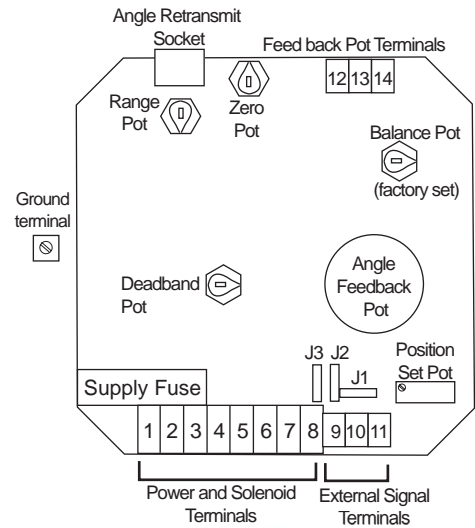

fig 5.
- 4 - Change over jumper 3 (refer to figure 5) on the circuit board from DA to SR end of its connector.